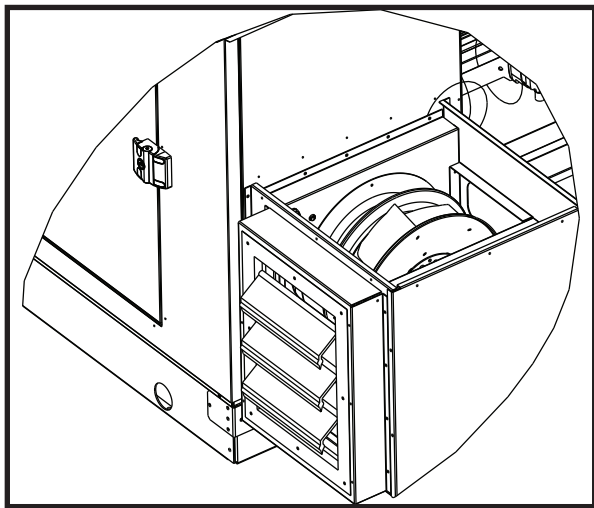

Figure 1. Power Exhaust in Position (Top Removed)
2. Position the powered exhaust unit assembly such that the plugged power connection can be made before setting the unit into location. See Figure 1.